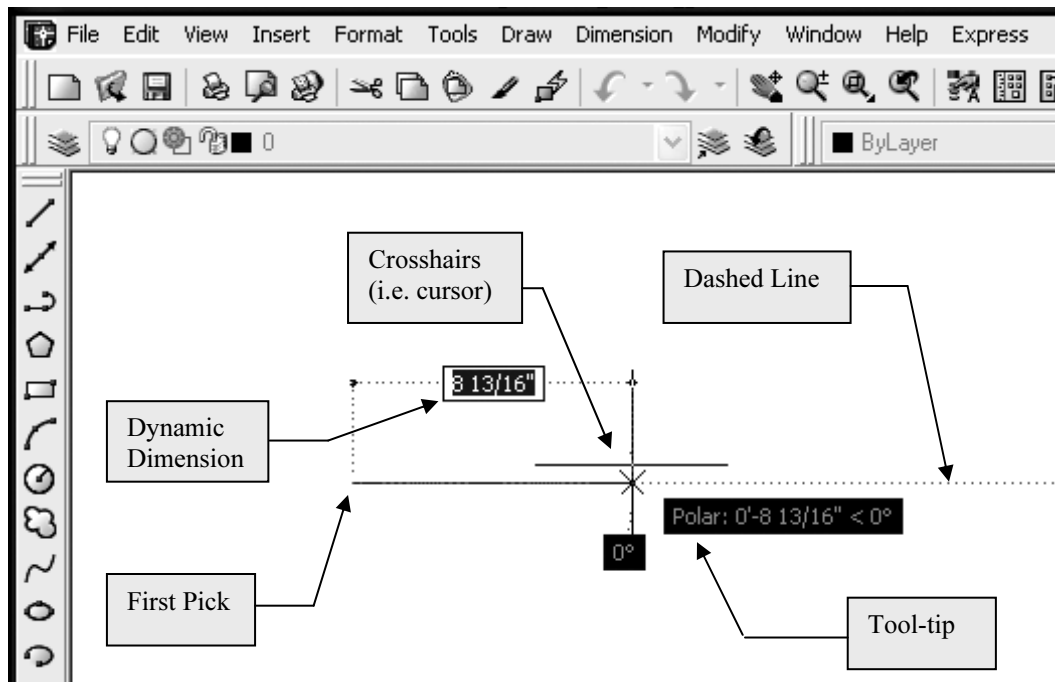

Figure 2-1.10 Drawing a line with the help of Polar Tracking
16. Start moving the mouse towards the right, and generally horizontal until you see a dashed reference line (extending off the screen in the direction you want to draw the line) appear on the screen as in Figure 2-1.10.